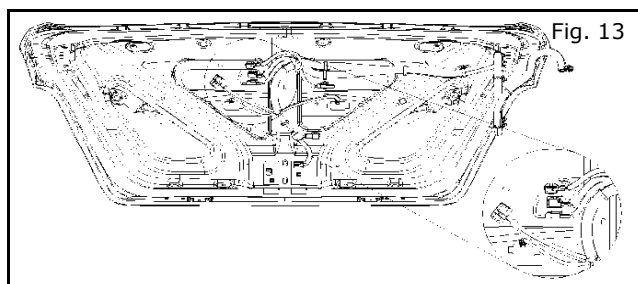

Fig. 13
- a) Find the brown connector near the center hole (right of left side). (Fig. 13) Connect CHMSL harness connector to the vehicle harness.